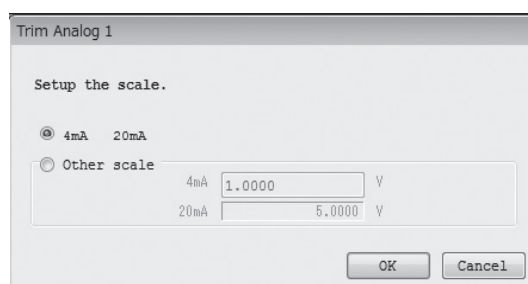
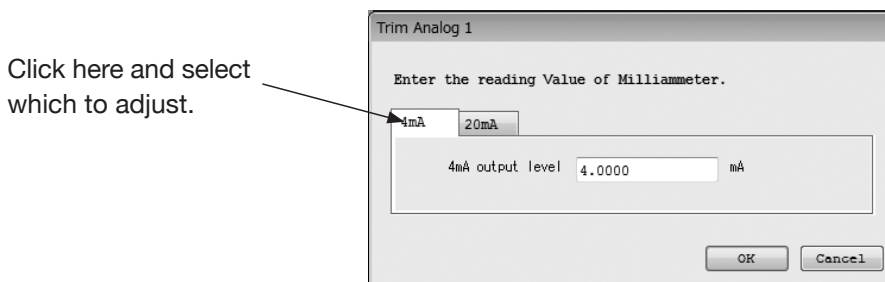
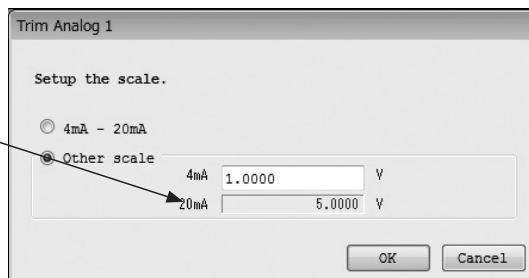

Fig.145
Fig.147
Fig.149
- ② The following window will be displayed after the "OK" button is clicked (Fig. 145). Select the scale from 4 to 20mA for adjusting analog 1, or select another scale (Other scale), then click the "OK" button.
- ④ Select "4mA to 20mA" from the window shown in Fig. 147 and click the "OK" button to display the window shown in Fig. 145. Select whether to adjust 4mA or 20mA. This description assumes that 4mA will be adjusted first, followed by 20mA.
- ⑤ To adjust 20mA, click the 20mA side of the window shown in Fig. 147, and adjust until the connected ammeter indicates 20mA, in the same was as with the 4mA adjustment.
- ⑦ Click the "Cancel" button to halt adjustment in progress, and follow the instructions that appear.
- ⑧ When "Other scale" is selected in the window shown in Fig. 145, another scale can be inputted as shown in Fig. 149. When an analog value equivalent to 4mA output is inputted into the first field (the 4mA side), then a corresponding value is automatically inputted into the second field (the 20mA side).